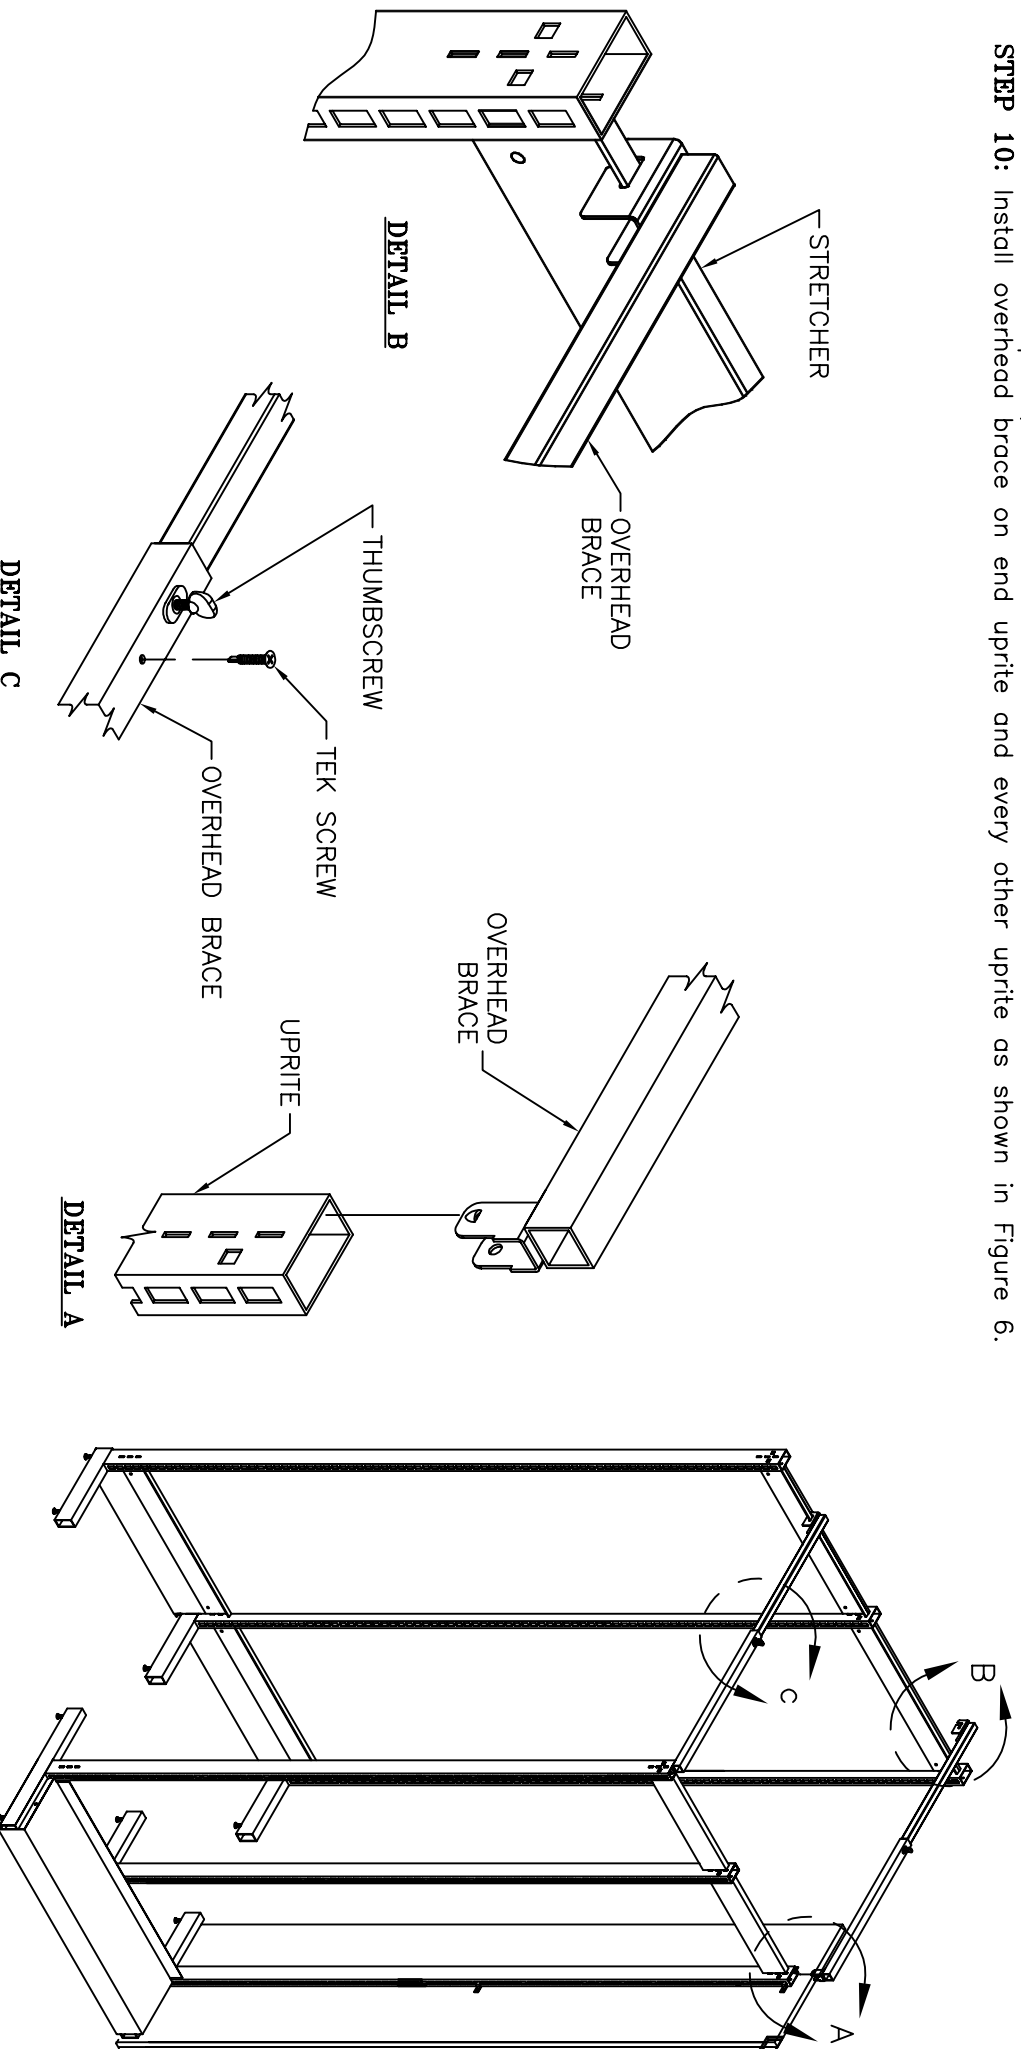

FIGURE 6
- STEP 10:** Install overhead brace on end uprite and every other uprite as shown in Figure 6.